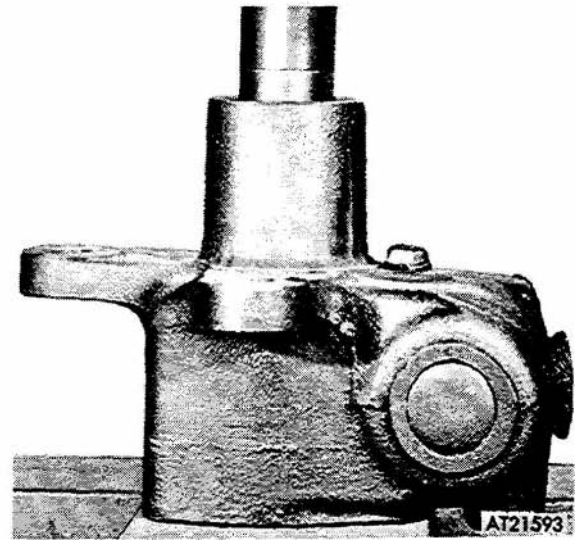
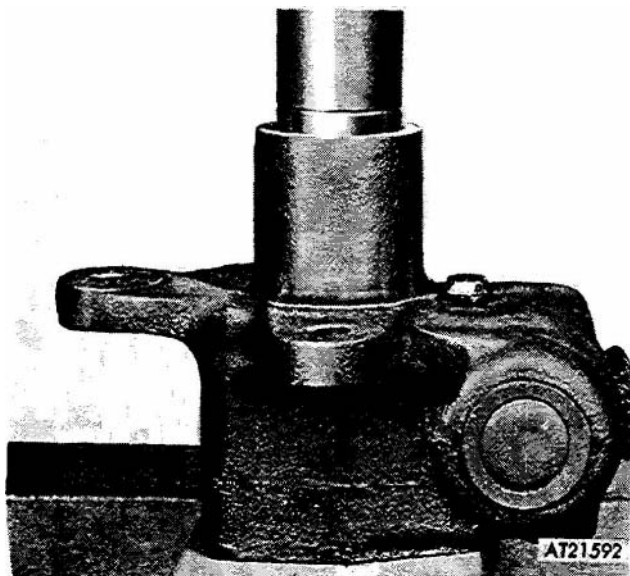

Figure 3-220. Pressing shaft seal into housing.
Figure 3-219. Pressing shaft bushing into housing.
(2) Press one bushing (23) into housing (20) until it is just below the seal retaining shoulder (fig 3-219). Turn housing (20, fig 3-212) over and press remaining bushing (23) into housing until it is flush with housing. Press seal (22) into housing (fig 3-220).